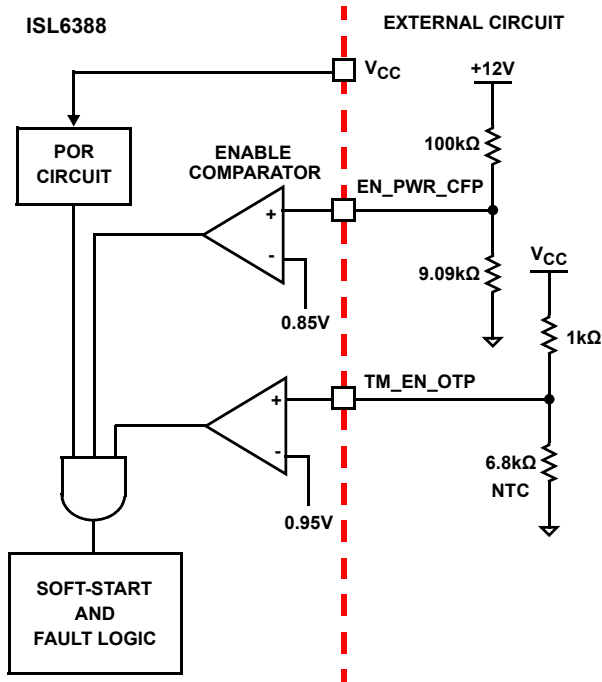

FIGURE 14. POWER SEQUENCING USING THRESHOLD-SENSITIVE ENABLE (EN) FUNCTION
2. The ISL6388 features an enable input (EN_PWR_CFP) for power sequencing between the controller bias voltage and another voltage rail. The enable comparator holds the ISL6388 in shutdown until the voltage at EN_PWR_CFP rises above 0.85V. The enable comparator has about 100mV of hysteresis to prevent bounce. It is important that the drivers reach their POR level before the ISL6388 becomes enabled. The schematic in Figure 14 demonstrates sequencing the ISL6388 with ISL99140 DrMOS and the ISL66xx family of Intersil MOSFET drivers.